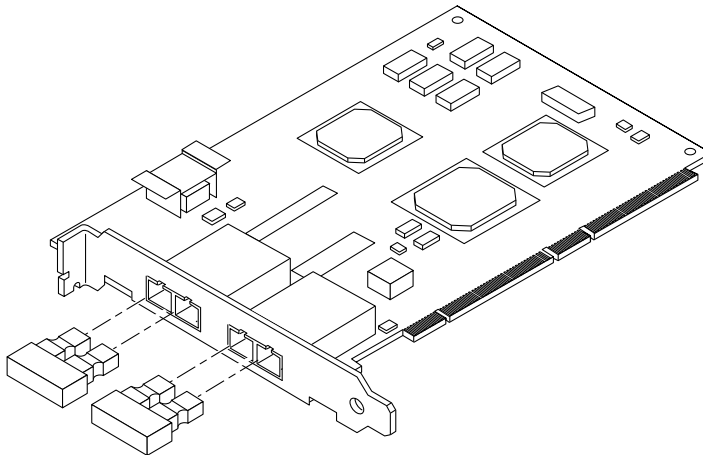

FIGURE 1-3 Sun StorEdge PCI Dual Fibre Channel Host Adapter Dust Covers
1. Pull the two dust covers out of the 1x9 optical transceiver (OT) connectors (FIGURE 1-3).